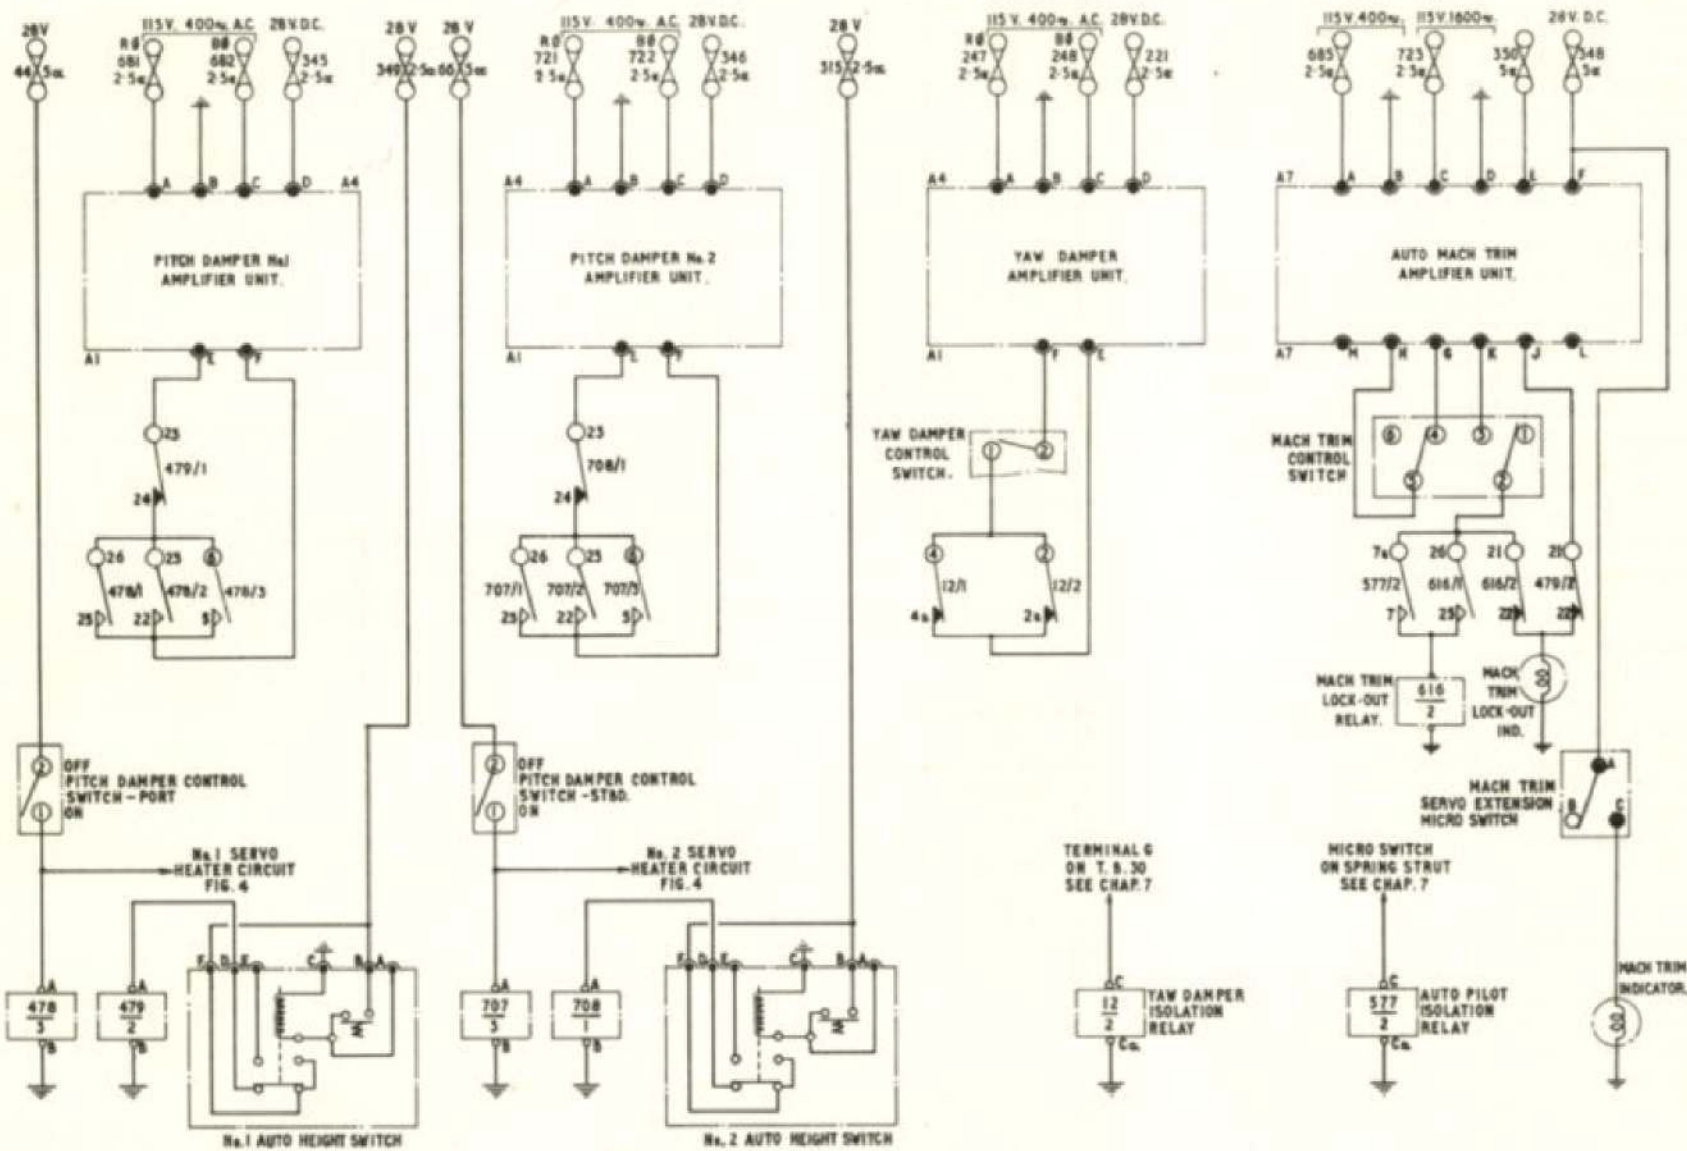

Fig. 2 Autostabilizer Power Supplies
8. The power supplies to autostabilizer equipment are shown in fig.2 and it will be seen that the supplies to the mach
10. Reference to fig.2 will show that selecting the port pitch damper control switch to ON will energise relay 478, thus closing relay contacts 478/1, 478/2 and 478/3. However, if the aircraft is below 20,000 ft. the system will be prevented from operating by the auto height switch.